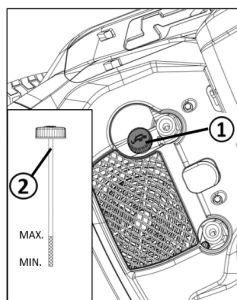

Figure 27
2. Unscrew the oil filler neck (Figure 27 ①) cap.
3. Pour in oil until the oil level can be seen between the MIN and MAX marks on the oil dipstick (Figure 27 ②). Do not overfill the engine!